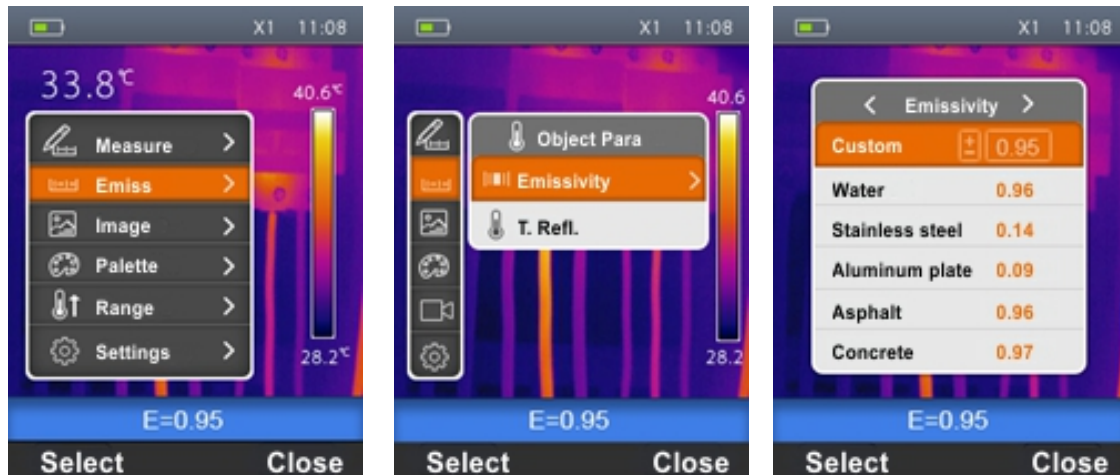

Fig. 17: Setting Emissivity on the instrument
1. Select the item “Emiss” with the keys \oplus or \ominus and press the key \blacksquare . The screen Fig. 17 – Central part is shown on the display.
2. Use the keys \oplus or \ominus to select the item “Emissivity” and press the key \blacksquare . The screen Fig. 17 – Right side is shown on the display